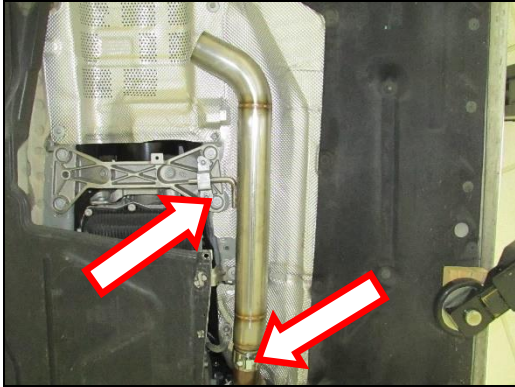

Figure 7
3. Slide on the (x1) 2 ½" band clamp and connect the Blackheart pipe to the OE down pipe or Hooker Blackheart P/N BH8308. Tighten (x2) bolts on the hanger bracket (**Figure 7**).